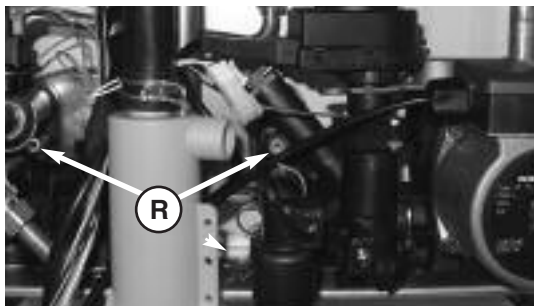

Fig. 90
4. Unscrew the two fixing screws **R** and pull the heat exchanger toward you (see Figs. 90 & 91);